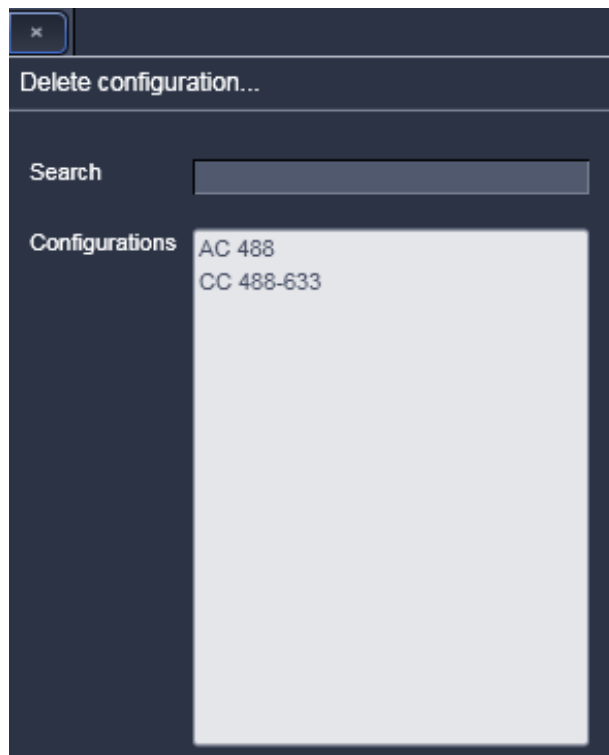

Fig. 336 Delete configuration... window
- Click on the **Delete** button. A **Delete configuration...** window will appear (Fig. 336).